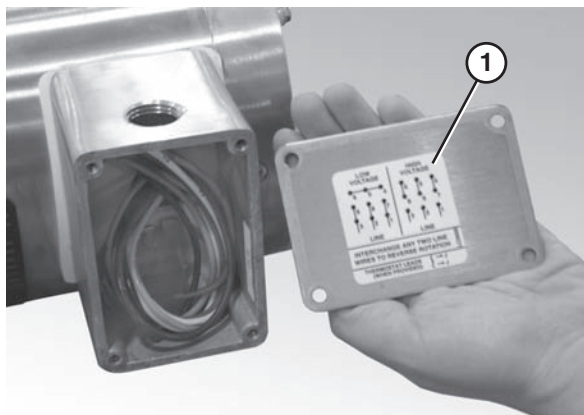

Figure 31
2. Refer to the wiring diagram (Figure 31, item 1) on the inside of the junction box cover.